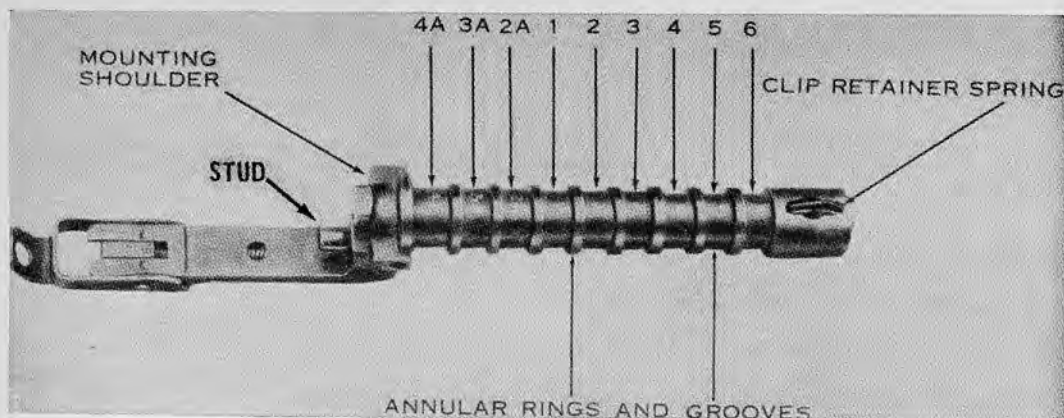

Figure 28.2. M7A3 grenade launcher.
2. **RIFLE GRENADE LAUNCHER M7A3** (Figure 28.2). The grenade launcher is merely an extension to the barrel of your rifle with graduated annular grooves which are used to obtain different ranges when firing grenades. A clip latch on the launcher fits over the bayonet stud and secures the launcher to the rifle. A stud attached to the frame of the launcher depresses the valve in the gas cylinder lock screw of the rifle when a grenade is fired. This allows excess gas created by the M3 cartridge to escape so it will not damage the rifle.